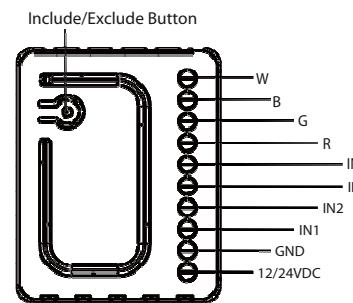

Figure 1. Terminals Description
- Figure 1. Terminals Description.